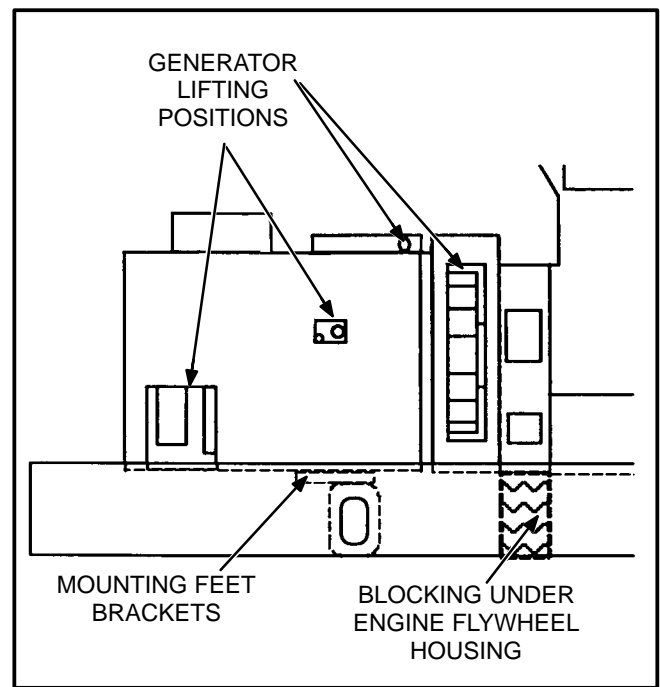

FIGURE 6-9. GENERATOR LIFTING POSITIONS
19. Using an adequate lifting device, lift the generator (at lifting eyes provided, and main stator housing) until the mounting feet brackets are clear of the frame member (see Figures 6-9 and 6-10).